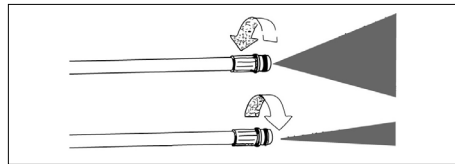

Figure 7 - Spray Adjust
4. Spray pattern shape and intensity can be changed by twisting the spray adjuster at the end of the lance. Keep hands clear of the front of the lance to prevent injury. See figure 7.